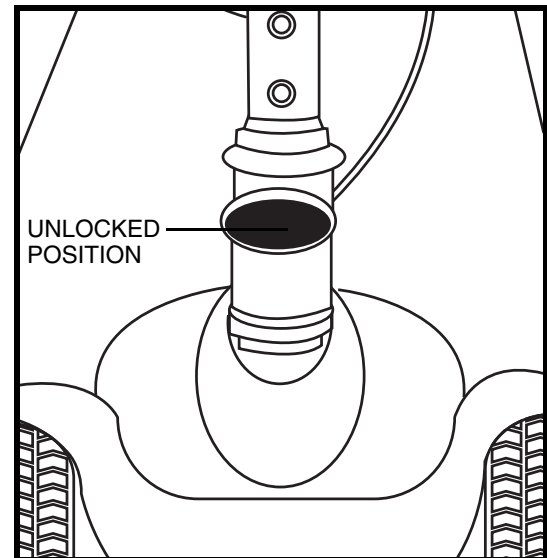

Figure 25A. Tiller Lock Knob (Unlocked)
6. Unlock the front wheel by turning the tiller lock knob 90° counterclockwise. See figure 25A.